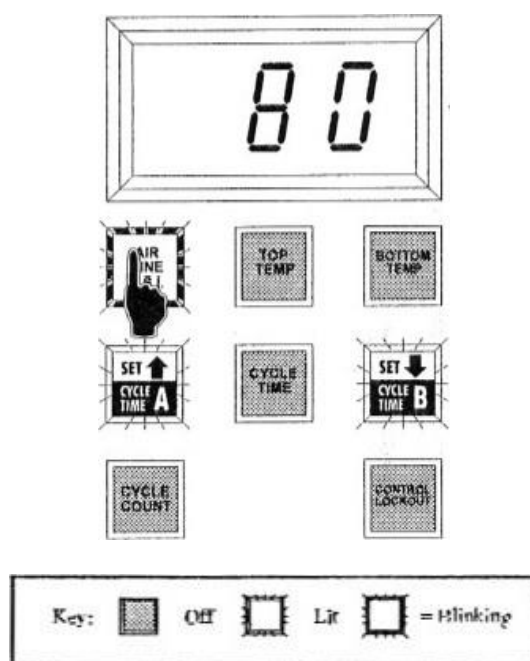

Figure 8-1
- While the control panel is in Monitoring Mode, press and hold the Air Line PSI button. After approximately two seconds, the panel's Up Arrow and Down Arrow buttons will light and the Air Line PSI button blinks, as shown in Figure 8-1. This puts the control panel in the Set Mode. Release the Air Line PSI button. The control panel displays the current pressure lockout setting.